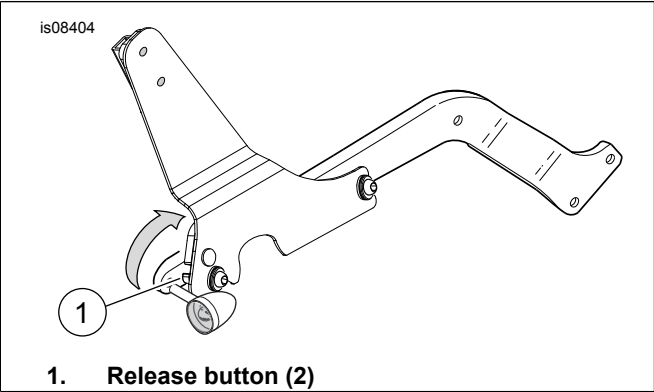

Figure 4. Close Rotary Latches
3. Push the rear of the sideplates downward. Close the rotary latches by pressing the latch levers as far forward as they go (see Figure 4). A "CLICK" is heard when the latches are in place. If the latches do not easily close, do not force. Check the sissy bar alignment again, as described in steps 3 and 4.